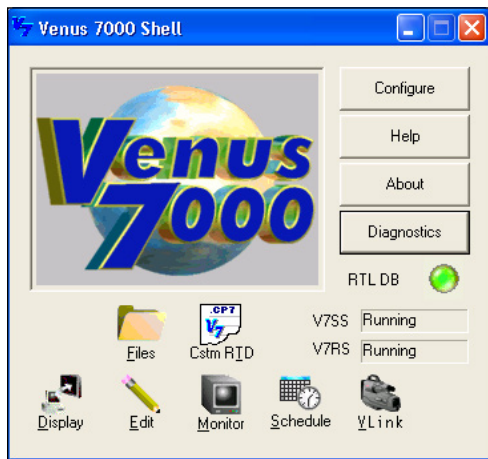

Figure 20: Venus® 7000 Shell
2. Click the VLink button in the bottom-right corner. Refer to Figure 20.